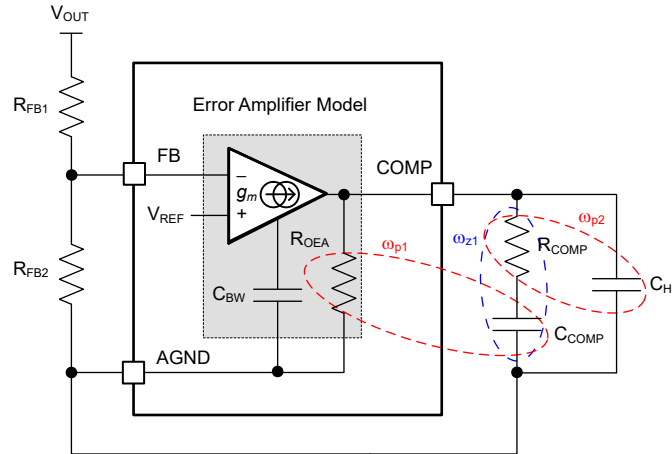

Figure 8-3. Error Amplifier and Compensation Network
A Type-II compensator using a transconductance error amplifier (EA) is shown in Figure 8-3. The dominant pole of the EA open-loop gain is set by the EA output resistance, R_{OEA} , and effective bandwidth-limiting capacitance, C_{BW} as shown by Equation 18.
The EA compensation components create a pole close to the origin, a zero, and a high-frequency pole. Typically, $R_{COMP} \ll R_{OEA}$ and $C_{COMP} \gg C_{BW}$ and C_{HF} , so the approximations are valid. Figure 8-3 circles the poles in red and the zero in blue.